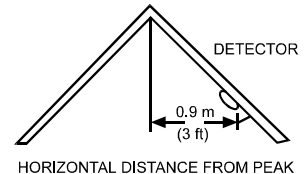

Figure 9. Recommended Location to Mount Smoke Detectors in Rooms with Sloped, Gabled or Peaked Ceiling
- If some of your rooms have sloped, peaked, or gabled ceilings, try to mount detectors 0.9 meter (3 feet) measured horizontally from the highest point of the ceiling as shown in Figure 9.